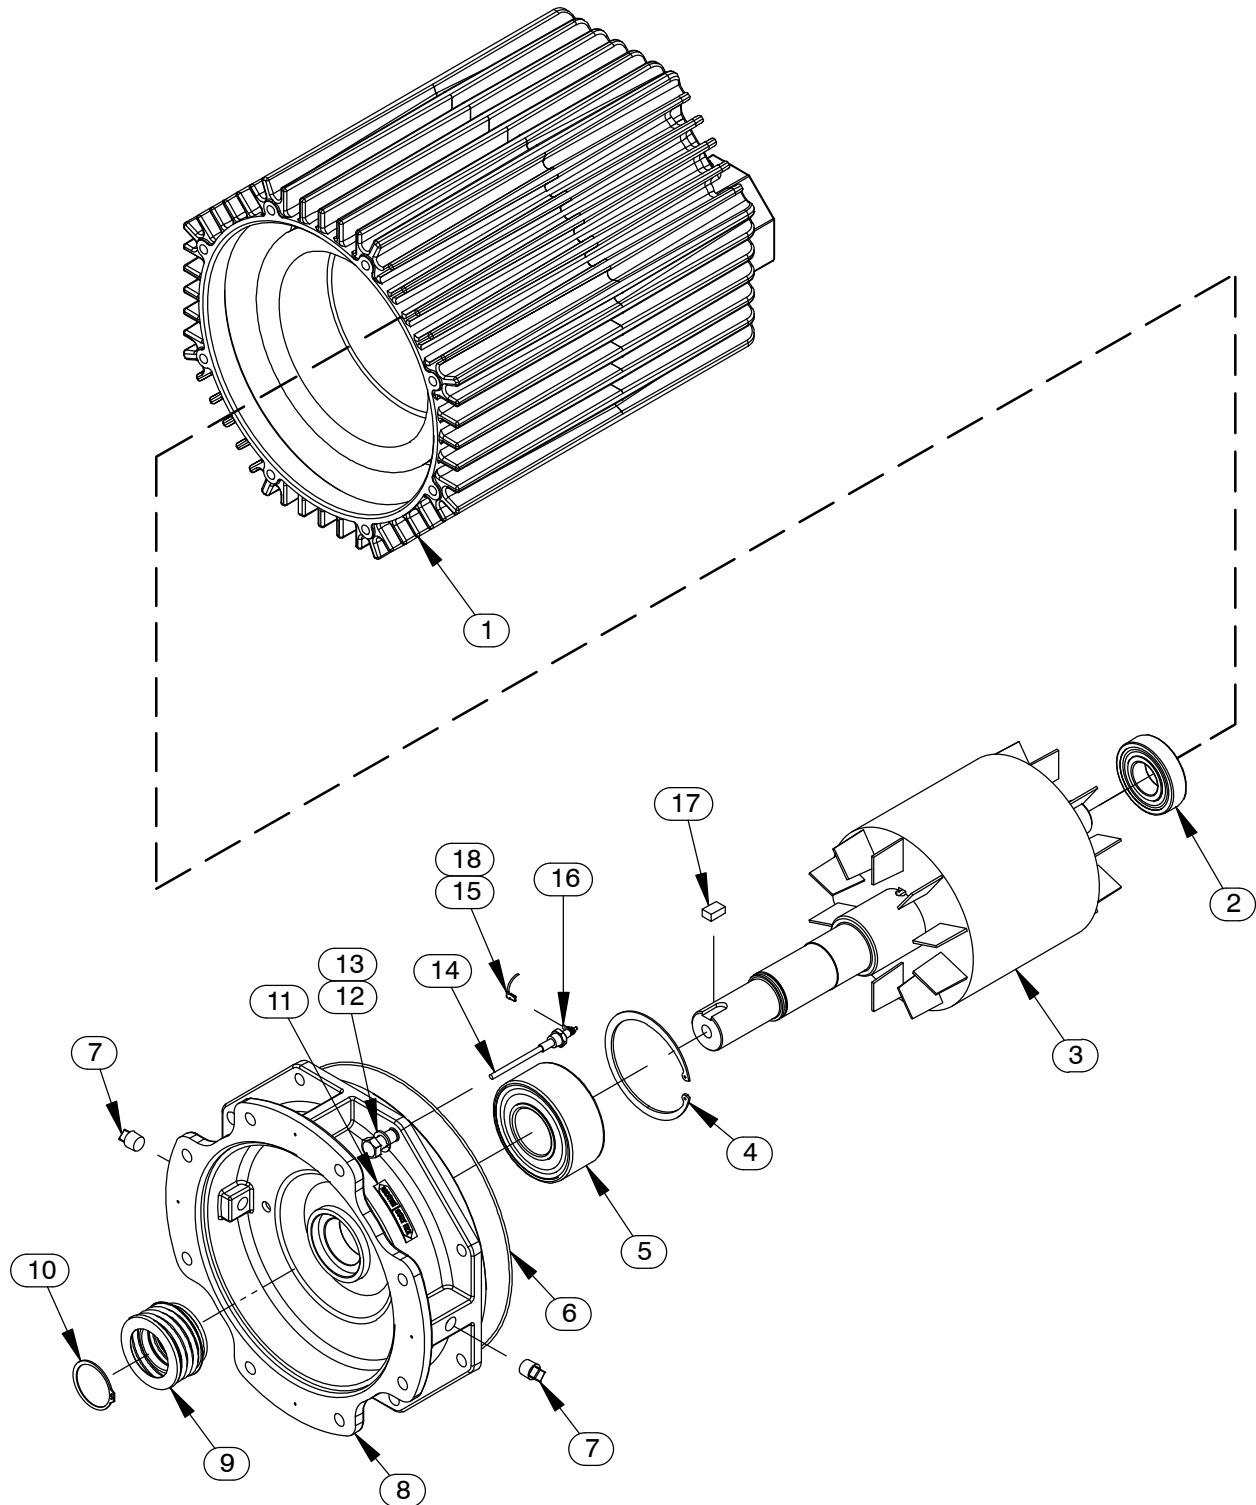

Figure E-2. Motor Assemblies
#### (Figure E-2)
To remove the impeller, use two thin-bladed screwdrivers positioned 180° apart to pry on the back of the impeller and “walk” the impeller off the shaft. Use increasingly larger screwdrivers (or wedges) as necessary. After the impeller comes free of the shaft, retain the impeller key (17, Figure E-2).
*An alternate method of removing the stationary element is to remove the screws (11) securing the seal plate (16) to the motor assembly (19). Pry the assembled seal plate and stationary element off the shoulder of the intermediate (8, Figure E-2). Remove the O-ring (15) and press the stationary element and seat out of the seal plate from the back side.*
#### (Figures E-2 and E-3)